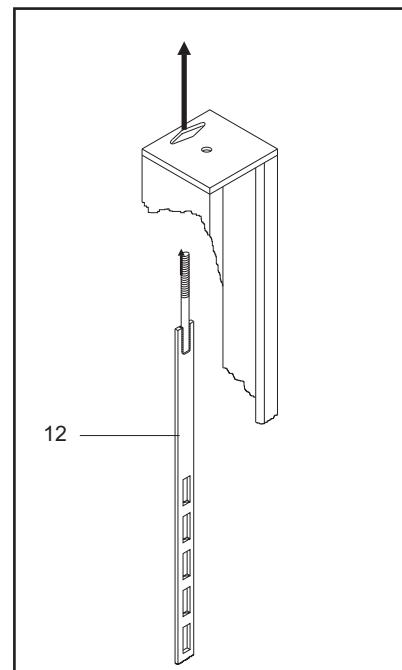

Fig.41
Remove the safety rods (12) from the top of the posts (1-2-3-4) as shown in fig.41.